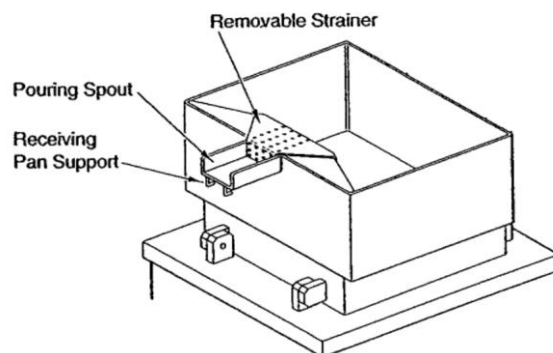

FIGURE 2
5. Food is poured through the removable strainer into a food receiving pan positioned under the lip of the pouring spout (Figure 2).
1. Thoroughly wash pan, pouring spout (see Figure 2), lid and exterior surfaces with detergent and warm water. If necessary, soak pan to remove food that is stuck to pan surface. Rinse thoroughly and wipe dry with a soft clean cloth.
2. Clean removable strainer and receiving pan support (Figure 2) with detergent and warm water. Rinse thoroughly and wipe dry with a soft clean cloth.